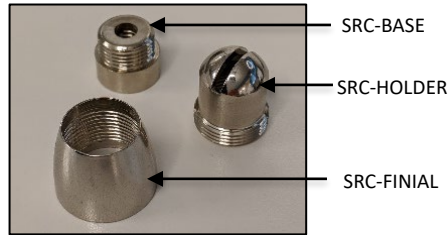

FIG. 12 – SLIP RING COUPLER (1)
9. Dis-assemble the SLIP RING COUPLER (1) as shown below in FIG.12 into three components SRC-BASE, SRC-HOLDER and SRC-FINIAL.